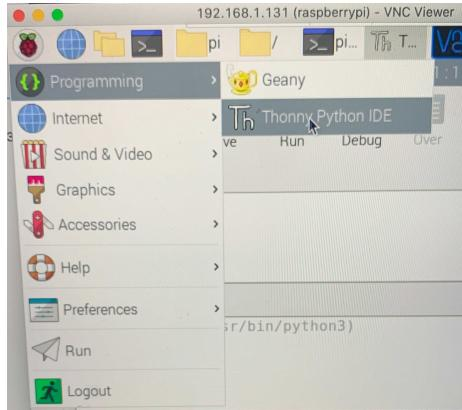

Figure 12: Click on the Raspberry at the top of the screen and then Programs to find Thonny
2. Boot up your Raspberry Pi and open the IDE Thonny (Figure 12).